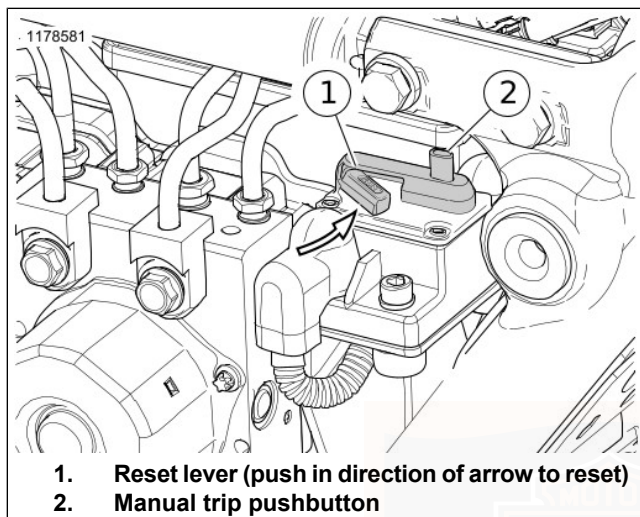

Figure 85. Reverse Motor Circuit Breaker
See Figure 85. The circuit breaker is located in the electrical caddy behind the right side cover. This manually resettable circuit breaker has a red trip pushbutton (2) and a reset lever (1). To manually trip the circuit breaker, push down on the trip push button (which causes the reset lever to extend out).